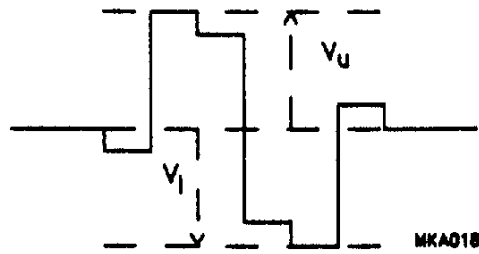

Fig.3 Non-linearity definition.
4. Measured as  $100\% \times (|V_u| - |V_l|) / (|V_u| + |V_l|)$ ; see Fig.3.